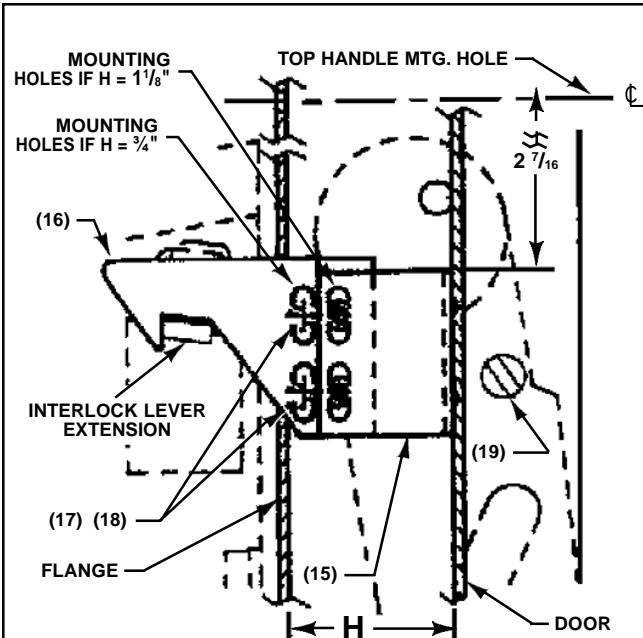

Fig. 4
3. INSTALLING DOOR CATCH (if required) (see figure 4)